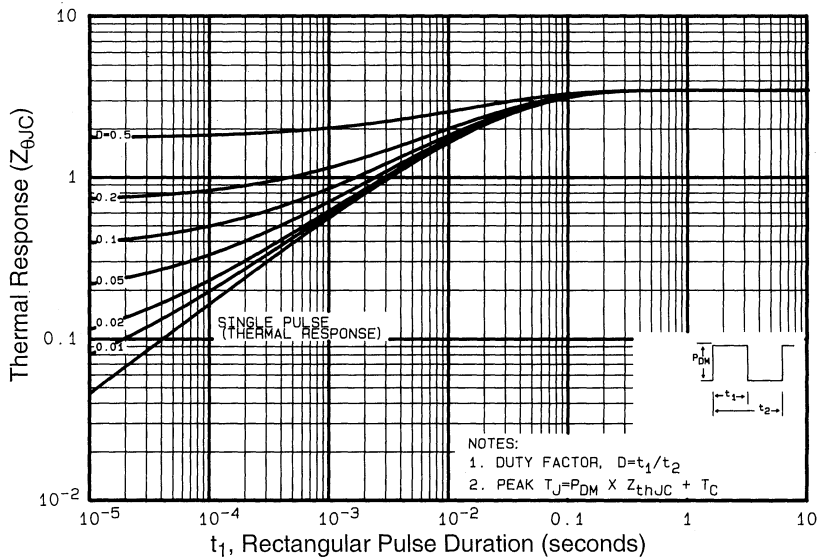

Fig 11. Maximum Effective Transient Thermal Impedance, Junction-to-Case
- ① Repetitive rating; pulse width limited by max. junction temperature. (See fig. 11)
- ② $V_{DD} = -25V$, starting $T_J = 25^\circ\text{C}$, $L = 3.6mH$